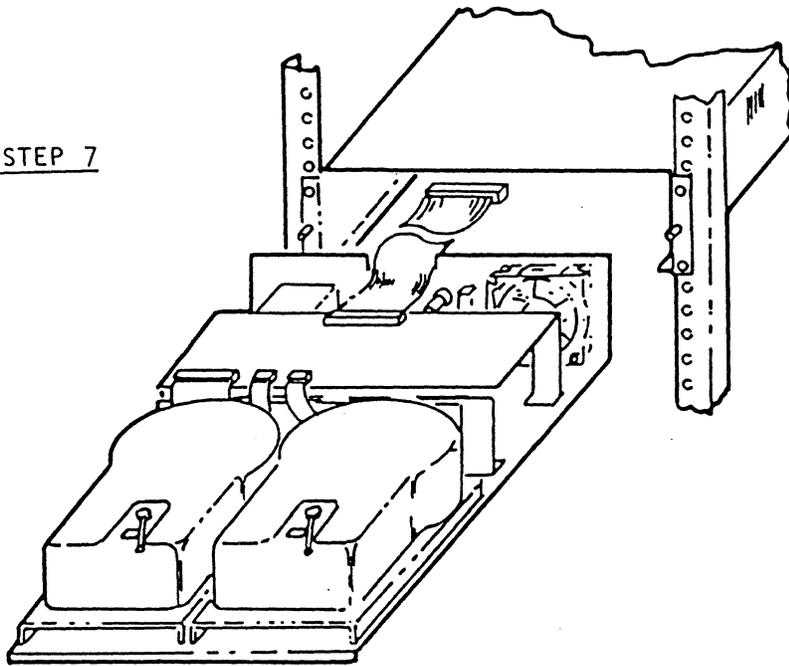

Figure 2-1d. Assembly into Top/Sides
Step 7. Slide the base/back assembly into the top-sides assembly, making sure that the flat cable(s) is (are) routed over the top edge of the back panel in the groove provided (see Figure 2-1d).